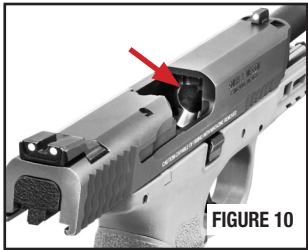

FIGURE 10
- Check the barrel chamber and magazine well to verify that the pistol is unloaded (FIGURES 10 and 11)